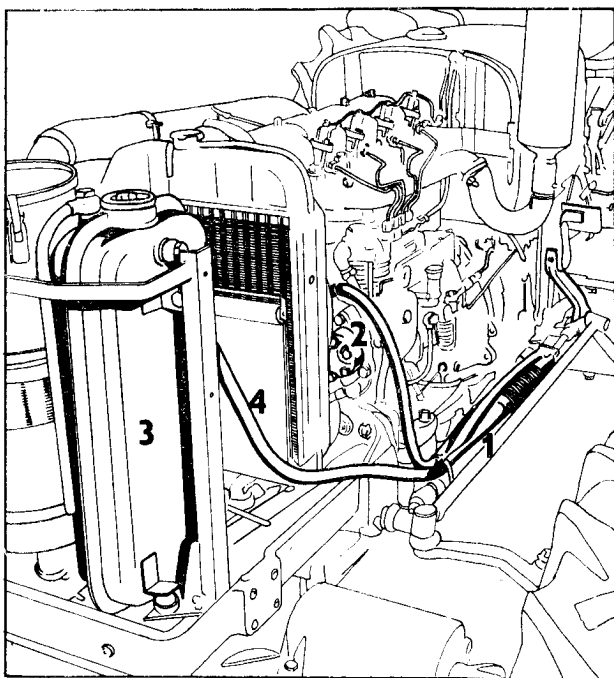

Fig. 18
Power Assisted Steering Mechanism (Fig. 18)
1. a cylinder with slide valve distribution (Fig. 18/1)
2. a pump (Fig. 18/2)
3. a tank and accessories (Fig. 18/3)
4. high pressure hoses (Fig. 18/4)